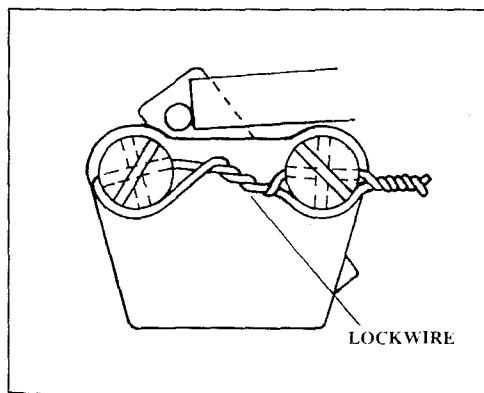
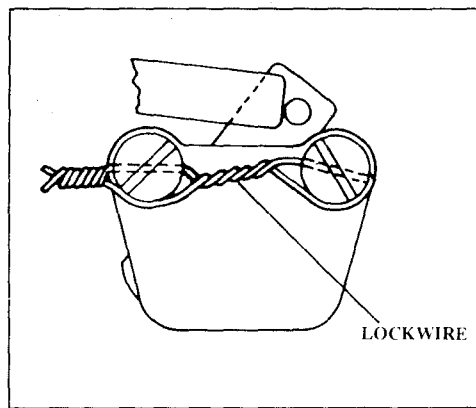

FIGURE 1-72
FIGURE 1-73
- (25) The required control unit — retainer plate clearance is .005"-.036" (0.13-0.91 mm).
- (26) If the clearance is not per specification, install a retainer plate with a smaller identification number (such as 1) or a larger identification number (such as 3) which yields the required clearance.
- (27) Make certain there is no binding in the control unit, control rod or fulcrum lever assembly.
- (28) Refer to Internal Timing and Testing Section VI for setting or checking lift-to-port closing and delivery valve opening pressure requirements per customer spec.
- (29) Lockwire the two control unit retainer plate screws together as shown in Fig. 1-72 and Fig. 1-73 for units with electric shut-off.